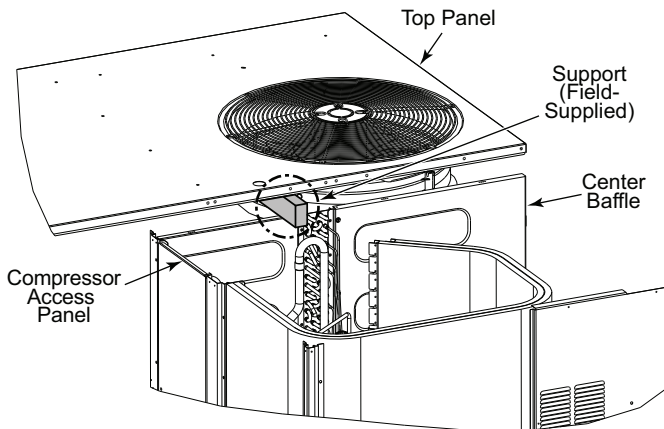

Fig. 19 — Top Panel Position
3. Lift and rotate the top panel at the condenser fan end and rotate the panel 90 degrees. Support the top panel so it remains level while resting on the condenser fan as shown in Fig. 19.